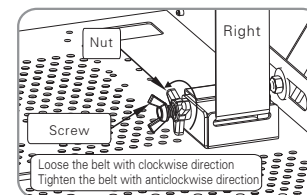

Figure 17
- Right height adjustment (Figure 17), firstly unscrew the right adjusted nut from middle to left, then you can release or tighten belt by turning right screw. Turning clockwise to release belt and would lower height of right side. Inversely, turning counterclockwise to tighten belt and upper height of right side.